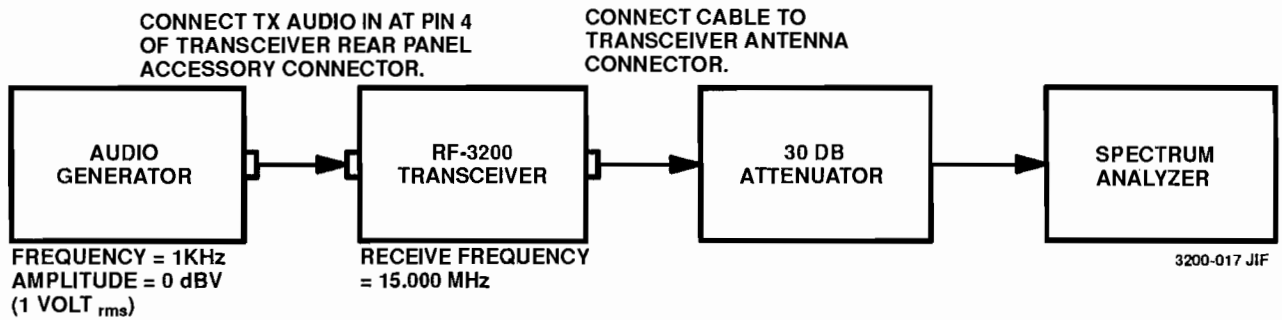

Figure 4-10. Exciter Adjustments (Using Spectrum Analyzer) Test Setup
- a. Use the test equipment setup shown in figure 4-10 to adjust the exciter carrier injection level with a spectrum analyzer as indicated in the following procedure.